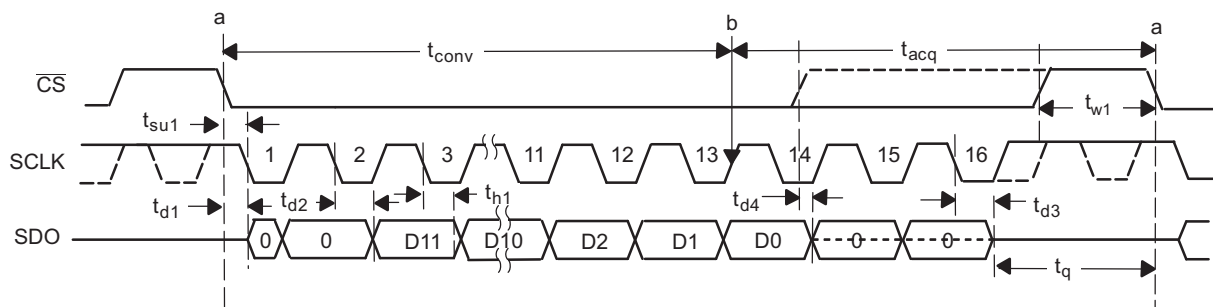

Figure 21. Interface Timing Diagram
**TIMING REQUIREMENTS (see Figure 21)**
## TIMING REQUIREMENTS (see Figure 21) (continued)
The cycle begins with the falling edge of  $\overline{CS}$ . This point is indicated as **a** in Figure 21. With the falling edge of  $\overline{CS}$ , the input signal is sampled and the conversion process is initiated. The device outputs data while the conversion is in progress. The data word contains two leading zeros, followed by 12-bit data in MSB first format and padded by two lagging zeros.
The falling edge of  $\overline{CS}$  clocks out the first zero, and a second zero is clocked out on the first falling edge of the clock. Data is in MSB first format with the MSB being clocked out on the 2nd falling edge. Data is padded with two lagging zeros as shown in Figure 21. The conversion ends on the first rising edge of SCLK after the 13th falling edge. At this point the device enters the acquisition phase. This point is indicated by **b** in Figure 21.
Figure 21 shows the device data is read in a sixteen clock frame. However,  $\overline{CS}$  can be asserted (pulled high) any time after point **b**. SDO goes to 3-state with the  $\overline{CS}$  high level. The next conversion should not be started (by pulling  $\overline{CS}$  low) until the end of the quiet sampling time ( $t_q$ ) after SDO goes to 3-state or until the minimum acquisition time ( $t_{acq}$ ) has elapsed. To continue normal operation, it is necessary that  $\overline{CS}$  is not pulled high until point **b**. Without this, the device does not enter the acquisition phase and no valid data is available in the next cycle. (Also refer to the Power-Down Mode section for more details.)  $\overline{CS}$  going high any time during the conversion aborts the ongoing conversion and SDO goes to 3-state.